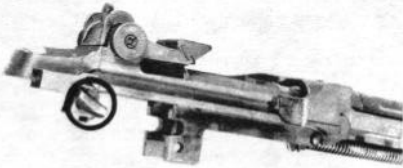

Figure 10. Position of the selector for removing the connector assembly (rifle modified for selective firing).
*a. Removing the Connector Assembly.* Place the barrel and receiver group on its left side with the operating rod handle up and the muzzle away from you. On rifles modified for selective firing, press in and turn the selector until the face marked "A" is toward the windage knob (fig. 10). With the bolt closed, place the right thumb on the rear of the connector assembly, the first finger on the sear release bracket and the second finger inside the rear of the receiver (fig. 11). Push forward with the thumb until the forward end of the assembly can be lifted off the connector lock with the thumb and forefinger of the left hand (2, fig. 11). (Note that the rifle shown in 1, 2, and 3, fig. 11 has not been modified for selective firing.) Turn the con-